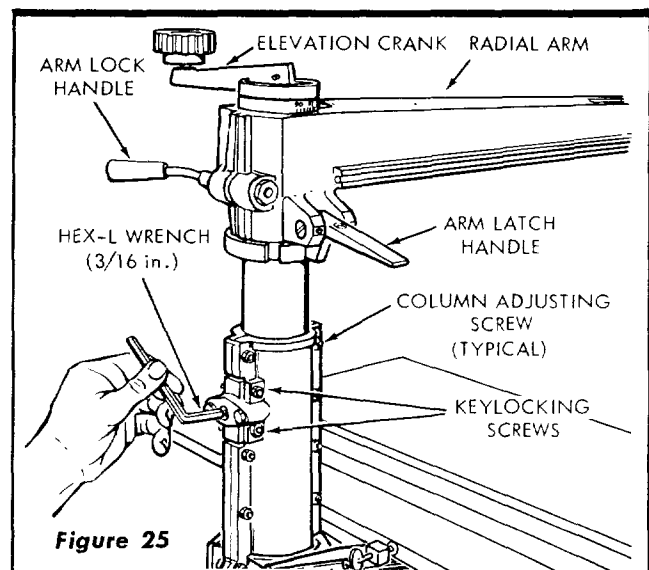

Figure 25
1. Set the radial arm at 0° index position, making sure the arm latch handle is in the detent notch, and tighten the arm lock handle. (See figure 25.)
3. Loosen two locking screws, insert a 3/16-inch Hex-L wrench into the socket-head set-screw that adjusts the column tube wedge key, as shown in figure 25. Rotate the set-screw slowly in (clockwise) until no side play can be felt in radial arm.